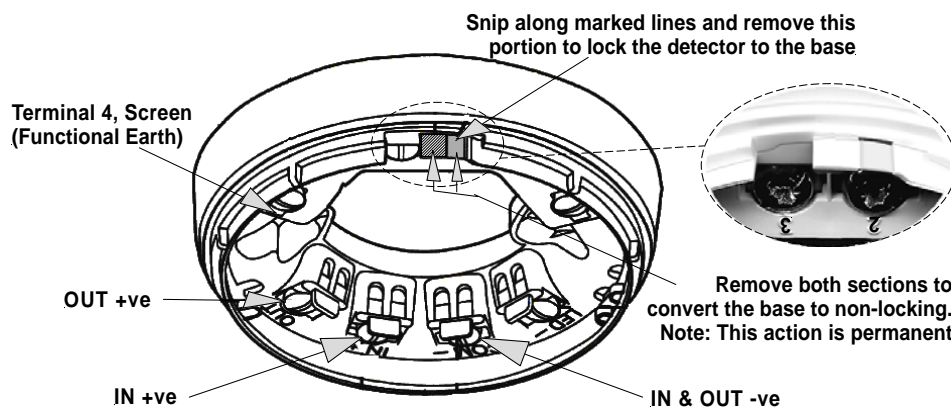

Figure 3: Orbis Base Locking Mechanism
1. Activate the locking mechanism if the detector is to be locked into the base. To do this, remove the small portion of the base shown in Figure 3 with side cutters or a similar tool.